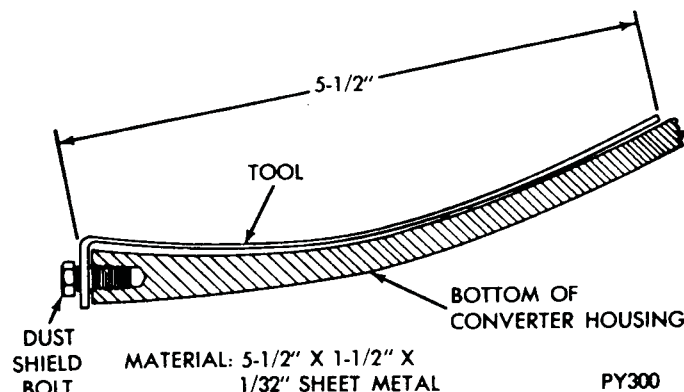

Fig. 4—Leak Locating Test Probe Tool
(1) Remove torque converter housing dust shield.
(2) Position vehicle with front lower than back so that accumulated fluid in torque converter housing will drain out. Wipe inside of torque converter housing as dry as possible. A solvent spray followed by compressed air drying is recommended.
(3) Fabricate and fasten test probe (Fig. 4) securely to convenient dust shield bolt hole. Make certain torque converter is cleared by test probe. Tool must be clean and dry.
(4) Run engine at approximately 2,500 rpm with transmission in neutral, for about 2 minutes. Transmission must be at operating temperature.
(5) Stop engine and carefully remove tool.
(6) If upper surface of test probe is dry, there is no torque converter leak. A path of fluid across probe indicates a torque converter leak. Oil leaking under the probe is coming from the transmission pump